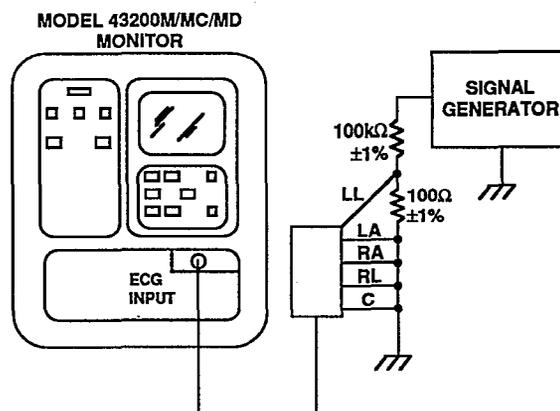

Figure 3-2. ECG Amplifier Gain Test Setup.
1. Connect the Equipment as shown in Figure 3-2.